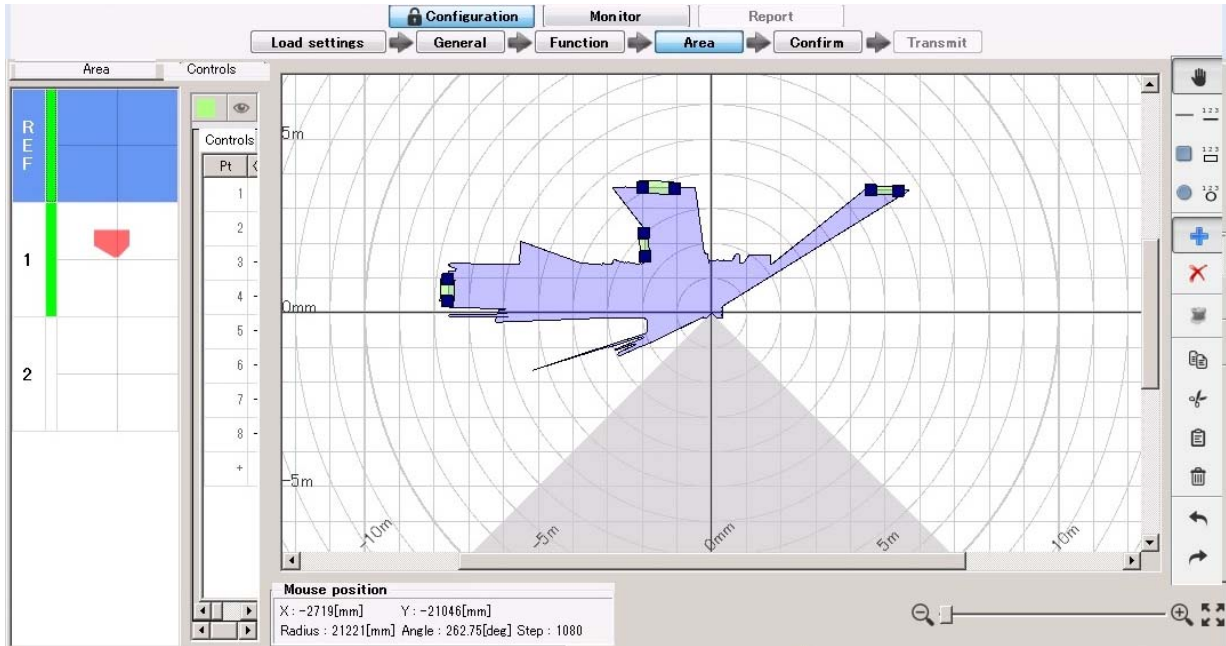

Figure 7-47 Reference region configuration example
- Main screen displays the configuration for reference region (Figure 7-47). First area on the preview indicated by “REF” represents the reference area.
For example, to monitor the sensor's displacement by referring the background, choose the line drawing tool and draw a line segment over the background by mouse drag and drop. Reference region with the \pm tolerance is generated on that location (Figure 7-47).